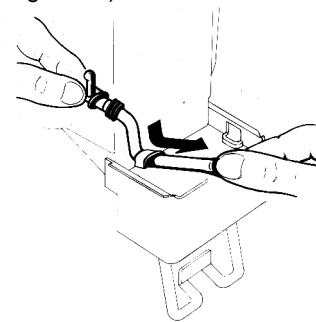

figure 13
- 2 - Insert the pinch tube into its horizontal seat in the bowl bottom (see figure 13).